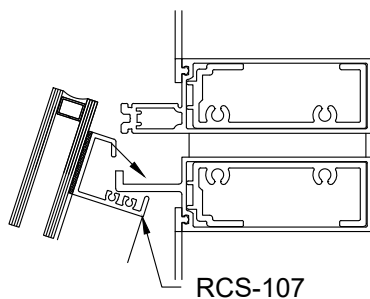

**FIGURE 23**
- 2.32 FIGURE 23 below shows the shear block assembly for the dual horizontal expansion assembly. Use the Reliance Installation Manual for typical wall assembly.